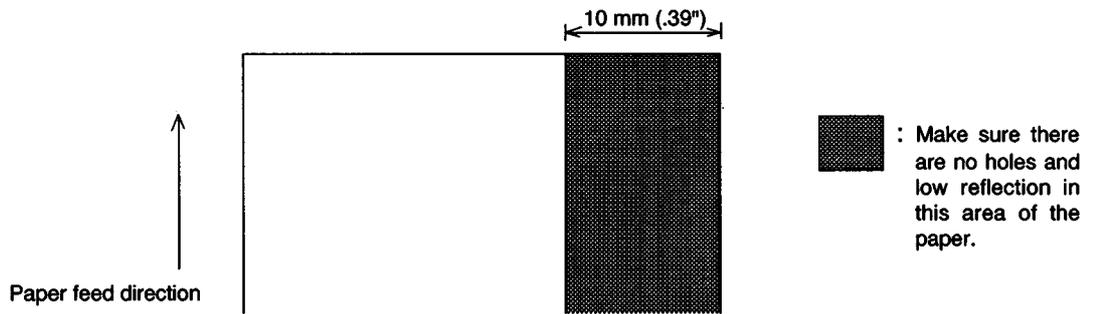

Figure 1.7.3 Paper Holes and Low Reflection Prohibited Area
- Since the slip ejection sensor uses a reflective photosensor, do not use paper that has holes or dark portions with low reflection (less than 40%) at the sensor position (refer to Figure 1.7.3).